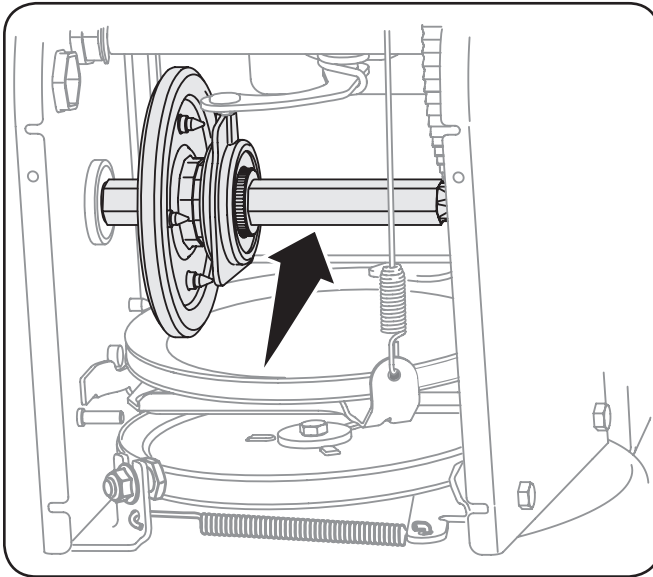

Figure 6-3
4. Apply a light coating of Bostik Regular Grade Never-Seez® to the hex shaft. See Figure 6-3.